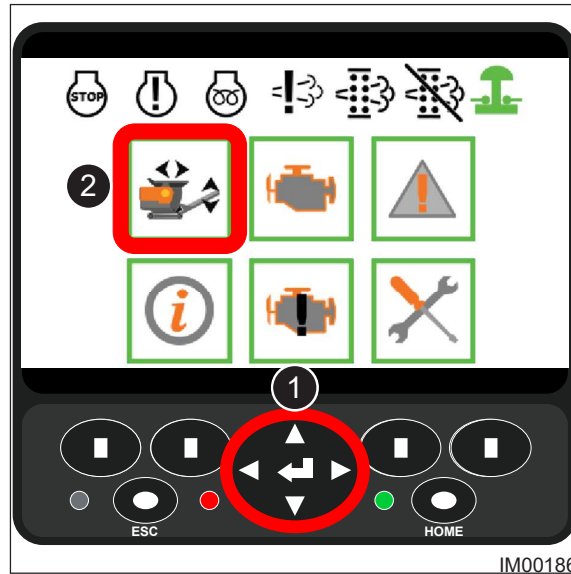

Fig: 7.12 - Menu Select Screen
10. On the Menu Select Screen (Fig: 7.12), use the Arrow Buttons (Item 1) to select the Machine Setup Icon (Item 2) and press enter.